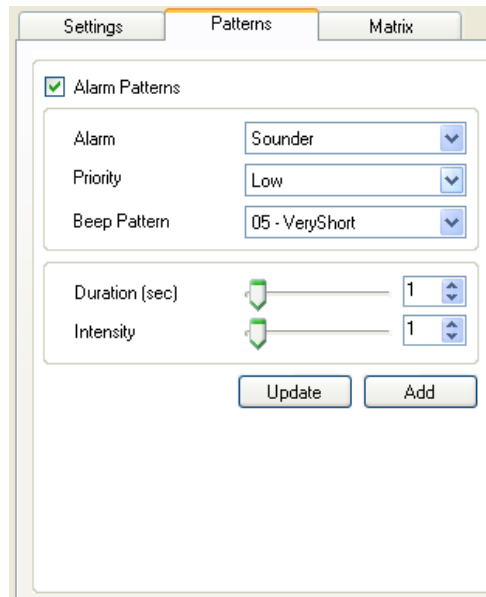

Figure 36: Alarm Patterns Enabled
23. To enable patterns, click Alarm Patterns (see Figure 36: Alarm Patterns Enabled). This activates the five components that need to be configured to create and/or update custom alarm events. They are:
- At the bottom of the Alarm patterns menu are two buttons, Update and Add (see Figure 36: Alarm Patterns Enabled above).
- Once the alarm pattern has been selected, choose from the different custom patterns that were established on the previous tab (see*** Figure 36: Alarm Patterns Enabled), which are numbered in the right pull down.